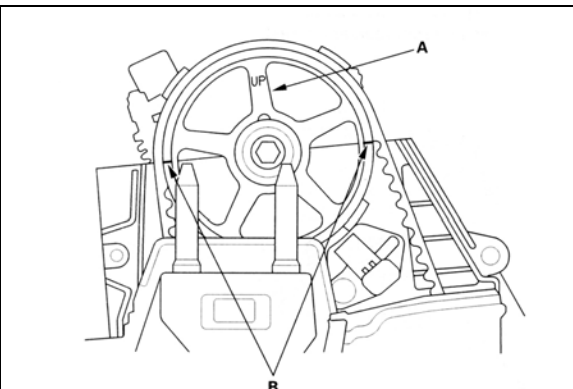

Fig. 15
- v) Since the camshaft turns at $\frac{1}{2}$ the speed of the crankshaft, check the cam gear to see if the motor is at TDC for cylinder 1. A: The "UP" mark should be at the top. B: The TDC marks on the cam gear should align with the top edge of the cylinder head. **(Fig. 15)**